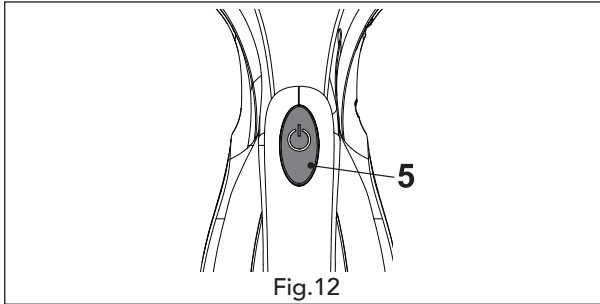

Fig.12
- Switch the product on by pressing the On/Off switch (5) (Fig.12).
- Press the On/Off switch (5) again to switch the product off.